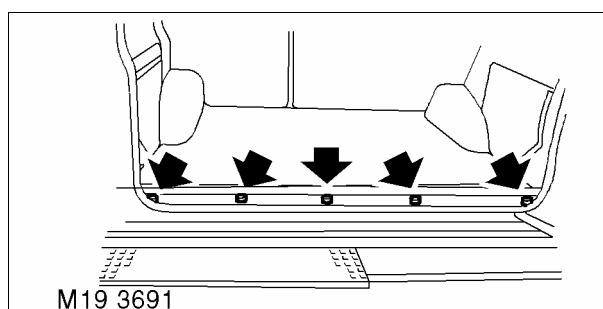

Fig. 1
- 5 Remove six screws securing loadspace carpet retainer to floor and remove retainer. Fig. 1.